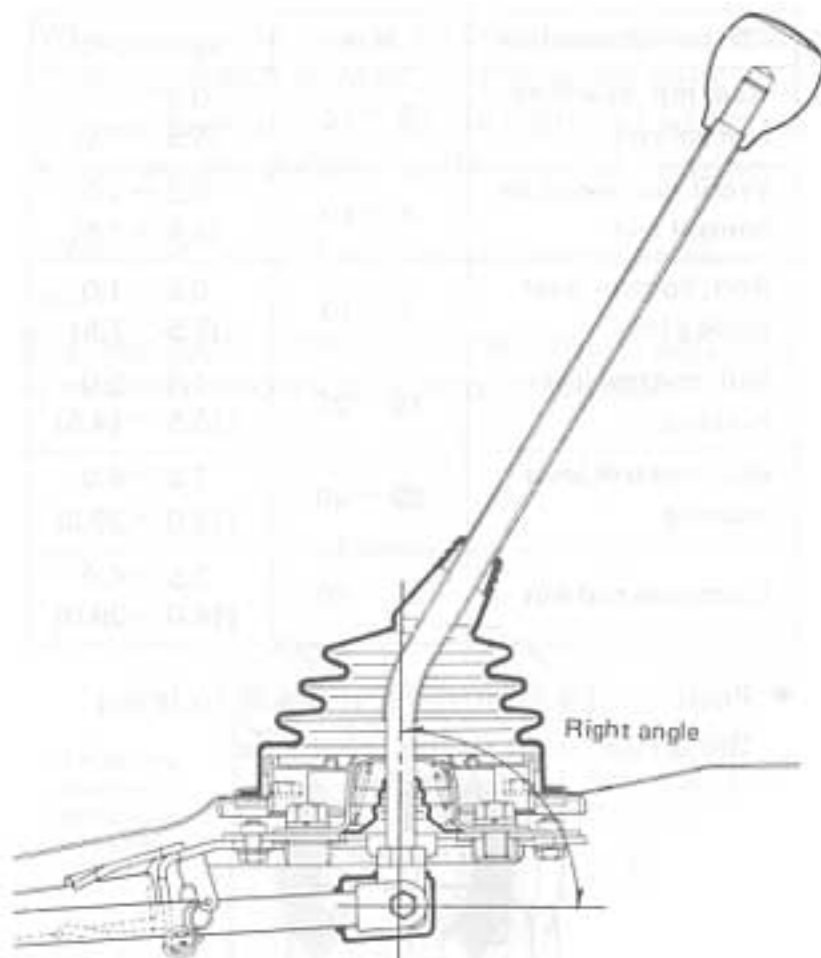

Fig. 13-12
- The control lever must be in the center of the guide plate and at the right angle as shown in Fig. 13-12.